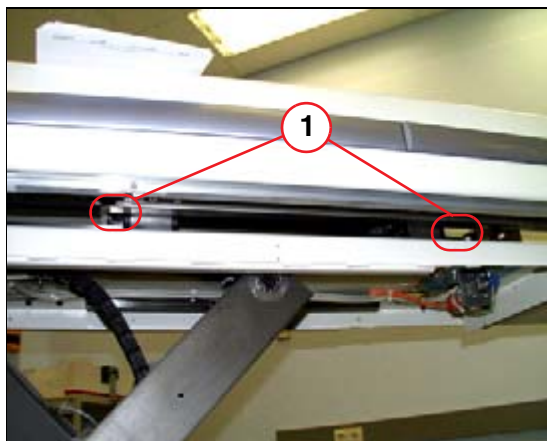

Fig. 6: Table: location of grease nipple
- Place the connector of the lubricant gun on one of the lubrication fittings of the guide rail to be lubricated (1/Fig. 6 / p. 29).